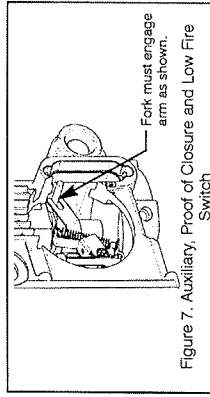

Figure 7. Auxiliary, Proof of Closure and Low Fire Switch
Auxiliary Switch Replacement (Refer to Figure 7)
- Install new auxiliary switch in the actuator making sure that the fork of the switch actuation lever engages the indicator arm as shown in Figure 7.
Proof of Closure Switch Replacement (Refer to Figure 7)
Low Fire Switch Replacement (Refer to Figure 7)